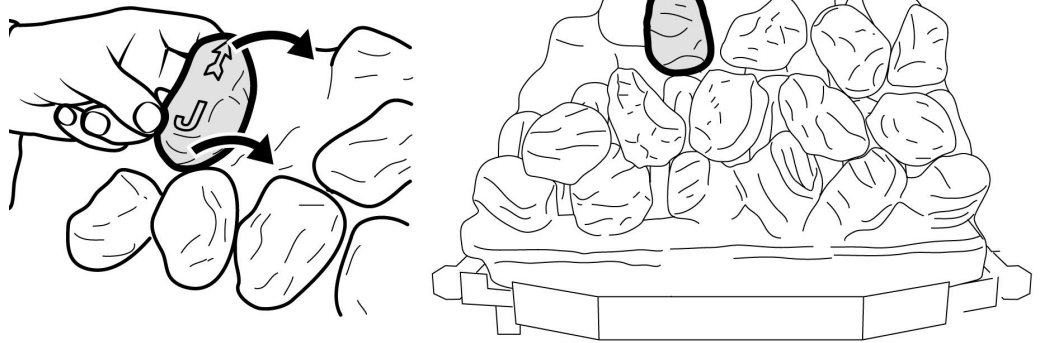

Figure 19. Second row "Coal J"
12. Hold coal 'J' upright with the arrow pointing to the top. Locate coal 'J' as shown in figure 19.